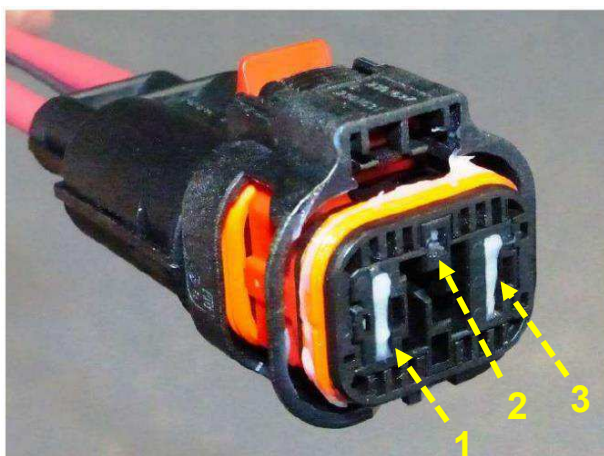

Fig.43a
1. Apply Lubricant as shown in 4.2 (Fig.43a/b)
3. Apply Lubricant as shown in 4.2 (Fig.43a/b)